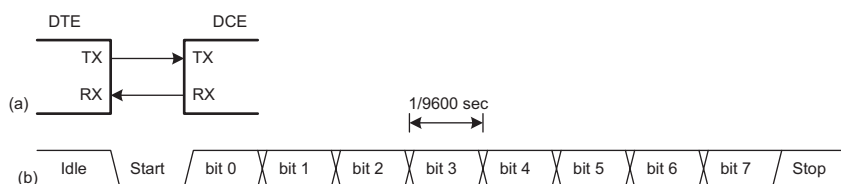

Figure e9.10 Asynchronous serial link
Figure e9.10(a) shows an asynchronous serial link. The DTE sends data to the DCE over the TX line and receives data back over the RX line. Figure e9.10(b) shows one of these lines sending a character at a data rate of 9600 baud. The lines idle at a logic “1” when not in use. Each character is sent as a start bit (0), 7 or 8 data bits, an optional parity bit, and one or more stop bits (1’s). Most typically, start and stop bits and 8 bits of data are sent. The UART detects the falling transition from idle to start to lock on to the transmission at the appropriate time. Although seven data bits is sufficient to send an ASCII character, eight bits are normally used because they can convey an arbitrary byte of data.